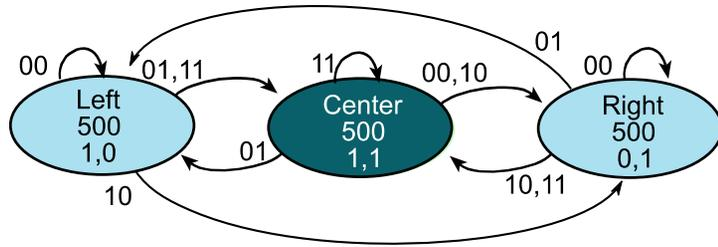
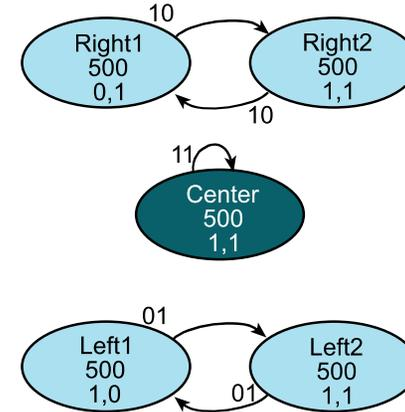

Figure 2. Moore FSM state graph to implement line following. The time in each state is shown in 1ms units.
Figure 4. Expanded FSM state graph. The time in each state is shown in 1ms units.
The **Lab07_FSM** starter project implements the three-state FSM shown in Figure 2, which we could use to implement a line-following robot. The 500 is the time to wait in each state in ms. On the real robot, we set these delay times to be much shorter, depending on how fast the mechanical robot responds to actuator commands. As a general rule of thumb, we run the software controller about 10 to 20 times faster than the time constant of the motors. For example, if the time constant of a motor is 100 ms, we could run the controller every 10 ms. However, in this lab, the 500 ms is chosen to make it easy to see the output with our eyes.
1) The FSM in Figure 2 gets confused (has a bug) if the robot is off little bit to the left (input is 01, and the machine is oscillating between the Left and Center states) and then goes completely off the line to the left (input is 00). In this machine, if it happens to be in the Center state when it goes off the line, it will incorrectly move to the Right state even though the robot went off to the left. You will solve this problem by implementing two left states (so it oscillates between the two left states when a little left). For symmetry, you will implement two right states as well. Figure 4 shows a partial solution. If the input is 11, then the output
The solution should have about 11 states (5 states from Figure 4, plus 3 for lost to the right, plus 3 states for lost to the left). As long as you have 9 or more states, feel free to make assumptions or change the exact behavior of the machine. The objective of the lab is to describe the complete behavior of a system with the state transition graph, and then to implement that behavior with a very simple FSM controller. The FSM controller should have NO conditional branch statements.
The second step is to design an FSM as described in the requirements section, Figure 4. As long as your machine has 9 or more states, feel free to adjust exactly how the machine operates. In this lab section you will: